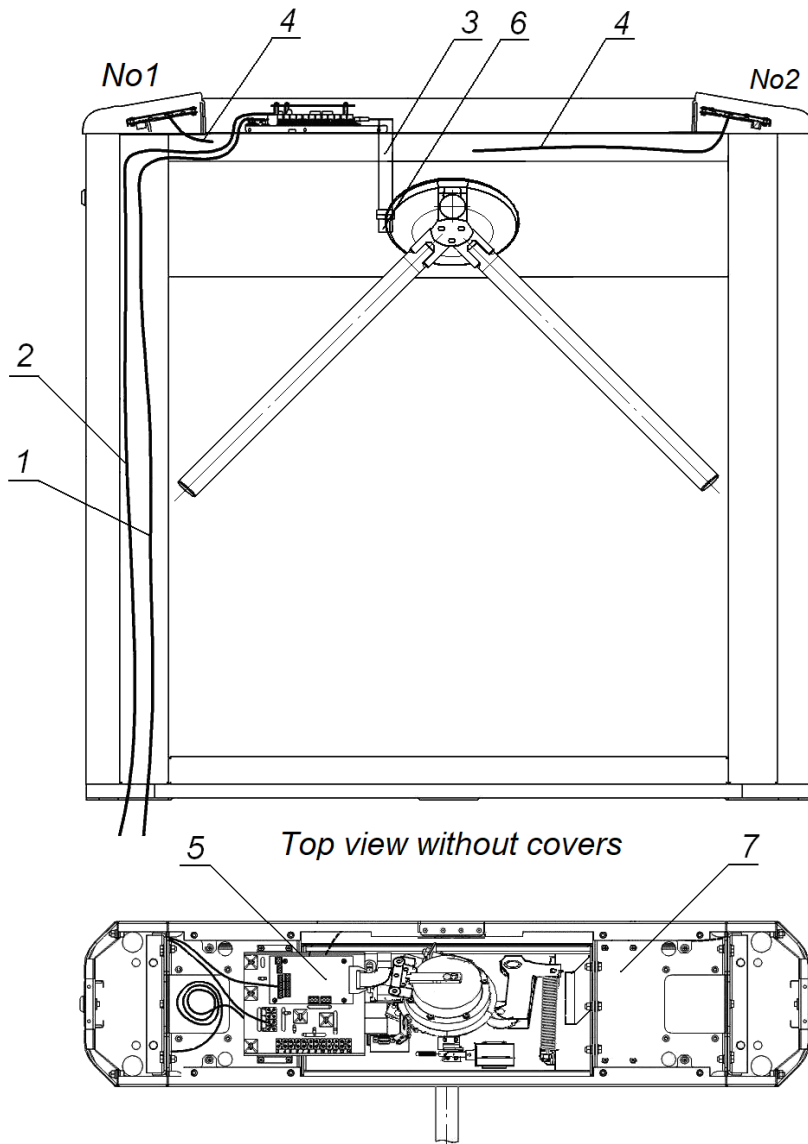
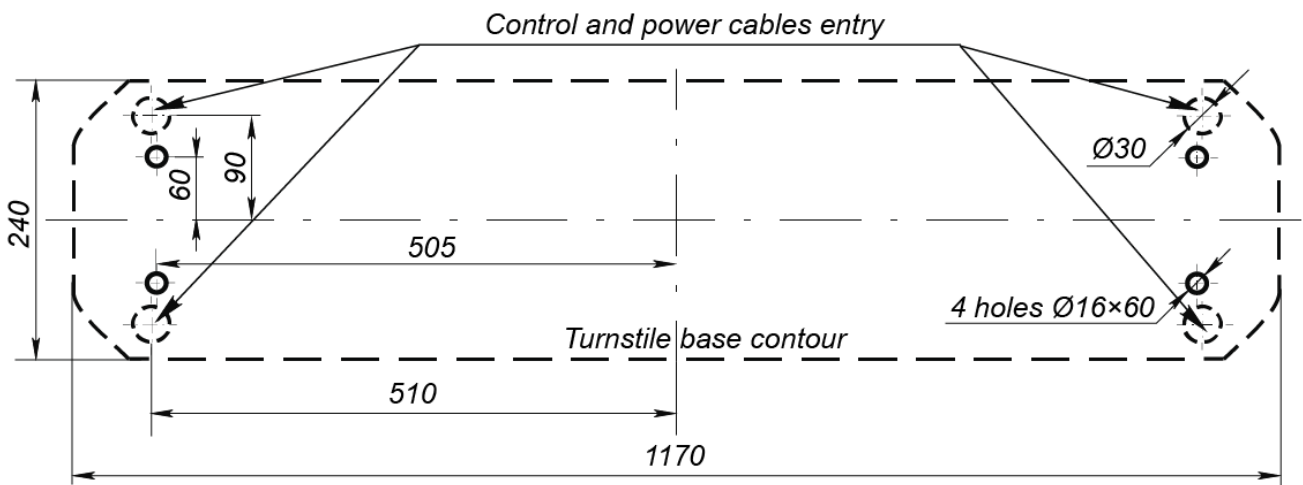

Fig. 11. Cable routing inside the turnstile housing
Fig. 12. Marking layout for the TB-01.9A turnstile housing installation
3. Make holes for anchor sleeves in the floor to fix the turnstile housing (Fig. 12). If it is necessary to lay cables under the floor surface, prepare a cable duct in the floor so that it leads to the area where these cables enter the turnstile housing. Install and fix the turnstile housing only after all cables have been laid inside the turnstile housing and in the cable duct. Cable routing inside the turnstile housing is shown in Fig. 11.
5. Remove the turnstile housing side covers (7) by unlocking the locks (8) with a key. Mount the housing on the anchor sleeves and fix it with M10 bolts.
6. Remove the turnstile housing top cover (3) by unlocking the set screw (14) with an Allen key (see Sect. 6).
The turnstile design makes it possible to install the ACS controller board inside the turnstile housing. The ACS controller board is mounted on a bracket (7, Fig. 11). The maximum possible size of the controller board to be installed amounts to 160×150×35 mm.